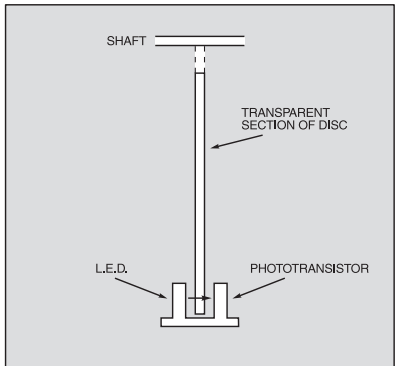

Fig.7.13. Slotted photosensor.
- **Slotted optosensors.** A slotted optosensor has a built-in phototransistor and I.e.d. mounted facing each other across a small gap, as indicated in Fig.7.13. Again a disc that has alternating transparent and opaque areas is used. The sensor is mounted at the edge of the disc so that the light beam is interrupted when the disc rotates. Another name given to this type of sensor is a **photointerrupter**.